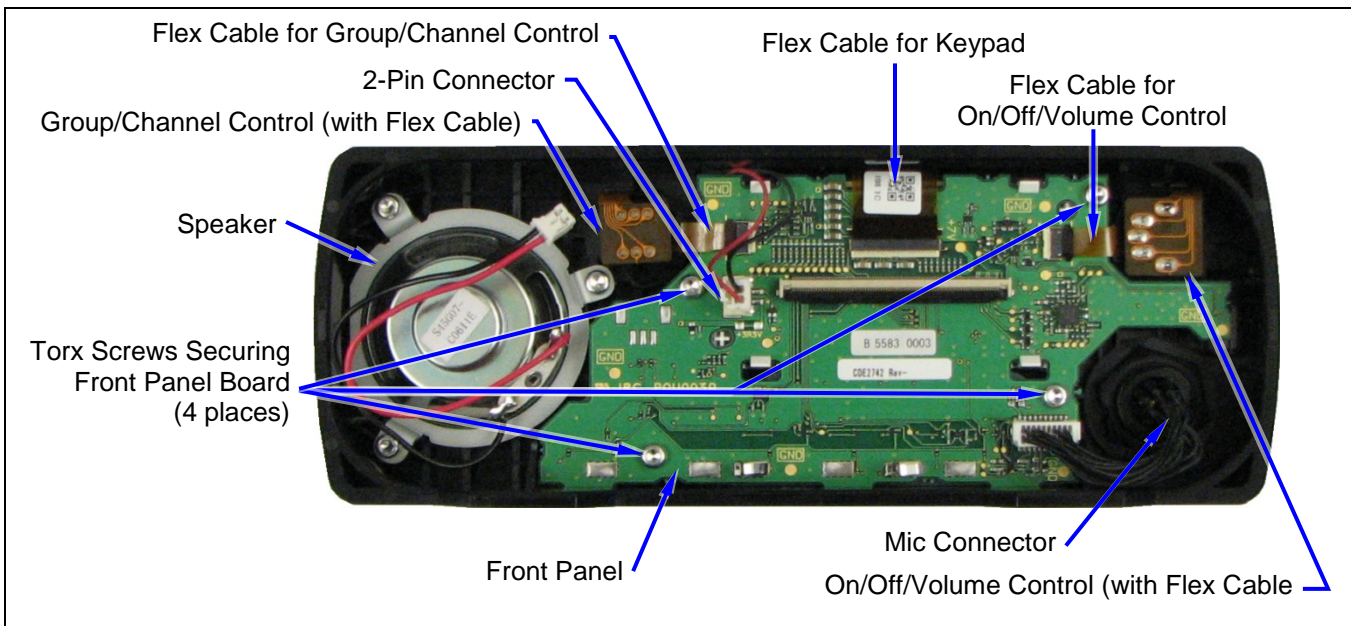

Figure 14-6: Removing the Front Panel Board and Display from the Front Panel
2. Disconnect the 2-pin cable connector located near the center of the Front Panel Board. Do this by gently squeezing the connector’s latch and then pulling the connector straight up. Do not pull by the two wires. This is the display backlight power connection. See Figure 14-6.